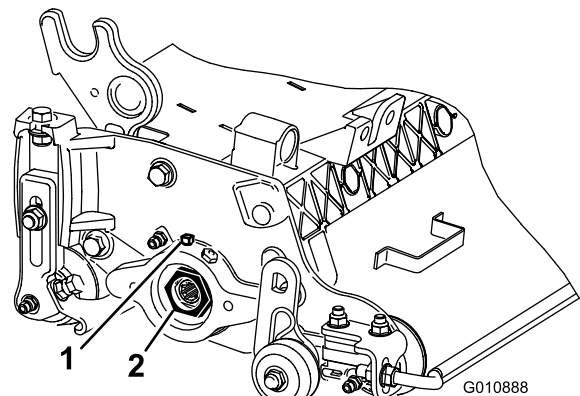

Figure 17
- A. Loosen the external set screw that secures the bearing adjusting nut to the bearing housing located on the left side of the cutting unit (Figure 17).